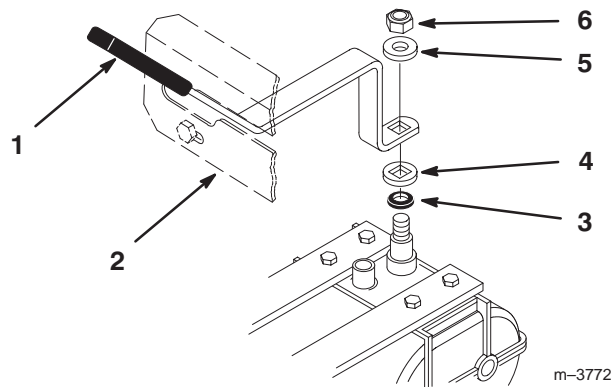

Figure 9
2. Slide shift lever through control panel and align mounting hole in lever with square on transmission shaft. Secure lever to transmission with previously removed spring washer and locknut (Fig. 9).
7. Shift lever to neutral and check alignment of lever in slot of shifter plate. Clearance between left and right of slot should be about equal. If not move control panel to adjust (Fig. 9).